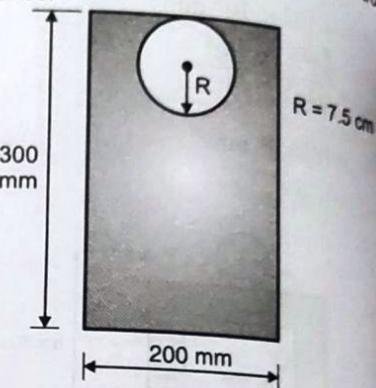

Fig. Q. 5
- Q. 5** Find the moment of inertia of a hollow rectangular section shown in Fig. Q. 5 about centroidal x-x and y-axes.